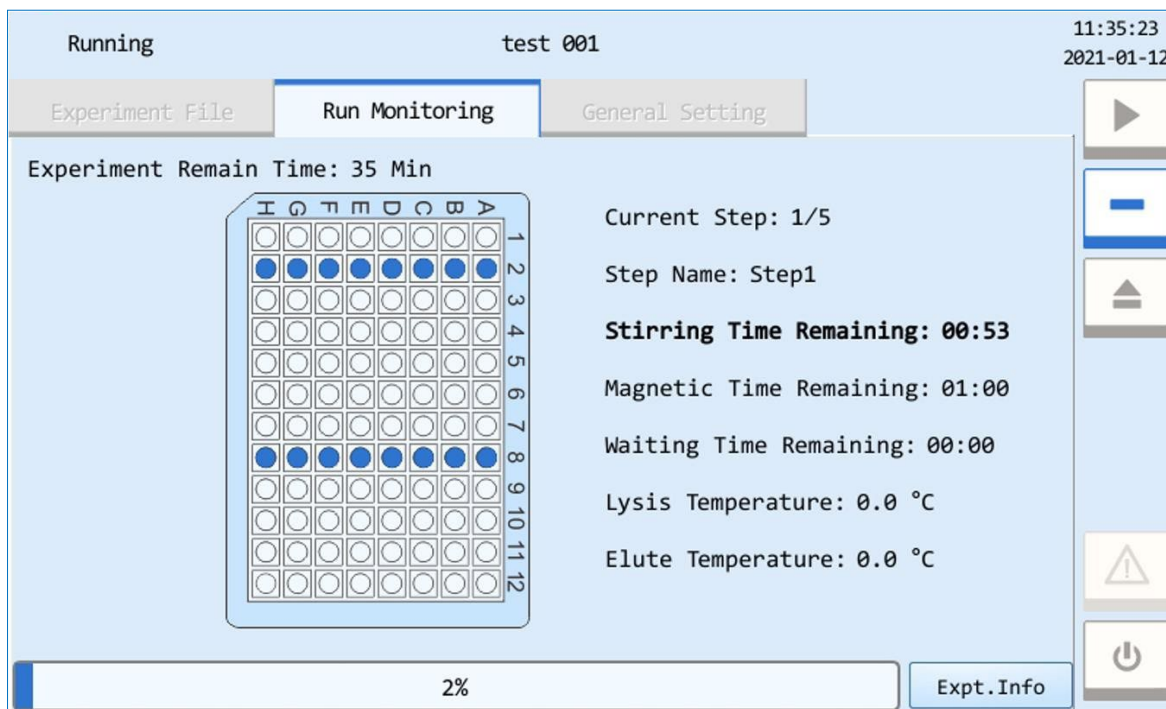

Figure 3-6a. Run Monitoring Tab - Experiment Information
When experiment starts running, the system software will automatically enter the run monitoring interface and real time display the relevant running information of the current experiment, as shown in Figure 3-6a.
- **Log:** user can click < **Details** > to view the detailed log of the current instrument, as shown in Figure 3.6a